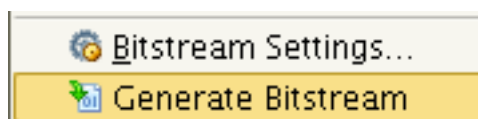
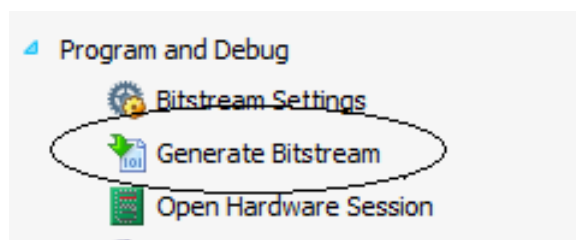

Figure 4: **Generate Bitstream Option**
Figure 5: **Starting Bitstream Generation Using Icon**
7. Select **Flow > Generate Bitstream**, (Figure 4) or, from the Flow Navigator, select **Program and Debug > Generate Bitstream** (Figure 5).